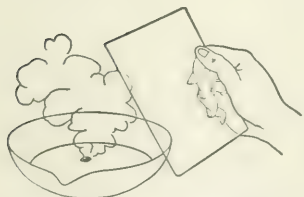

Fig. 23. Violent action of sodium on water.
b. Fill an evaporating dish one-fourth full of water, and drop into it with the forceps a bit of sodium (size of the head of a match). It is well to protect the eyes from spattering, with a plate of glass (Fig. 23). *Result?*